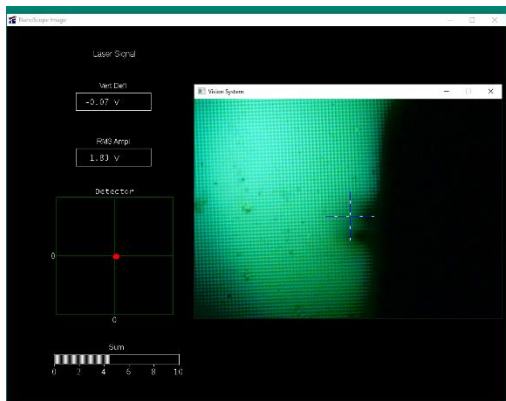

Figure 19: Tip Withdraw
19) **To move to another location:** Click “**the withdrawn icon**” once, and the tip will be withdrawn by 1 mm, the area should be still in focus (**Figure 19**).